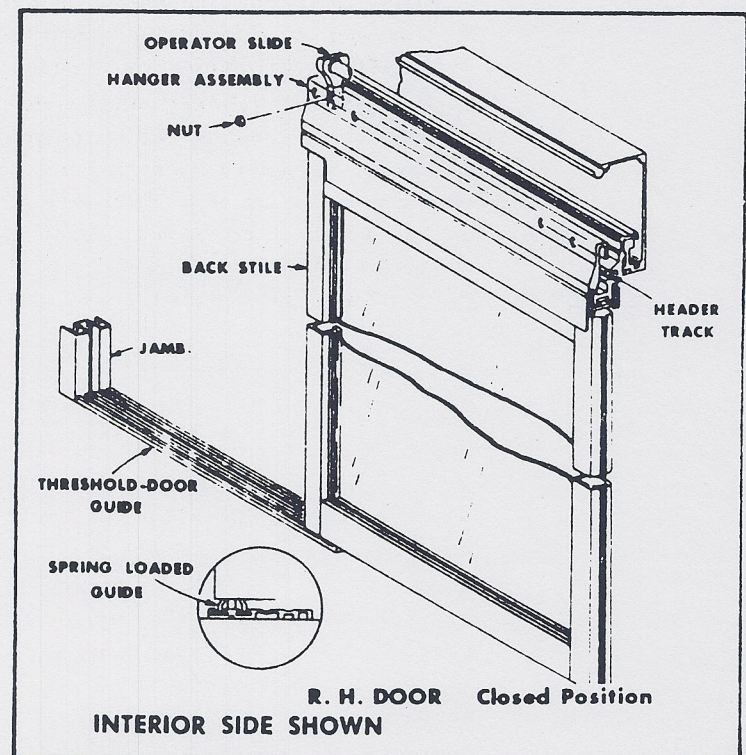

FIGURE 13
- I. Remove nut from bolt connecting operator slide and hanger assembly. Fig. 13.
- E. Remove nut from bolt connecting operator slide and hanger assembly with a ½" open end wrench. See Fig. 13.